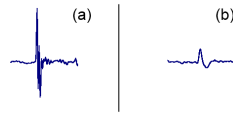

Figure 3.11: PD signal (a) before and (b) after having traveled approx. 800 meters inside XLPE cable
- dispersion of direct and indirect pulse (different frequency portions of the wide-band PD signal propagate with different velocities) that leads to change of pulse shape (see Figure 3.11),